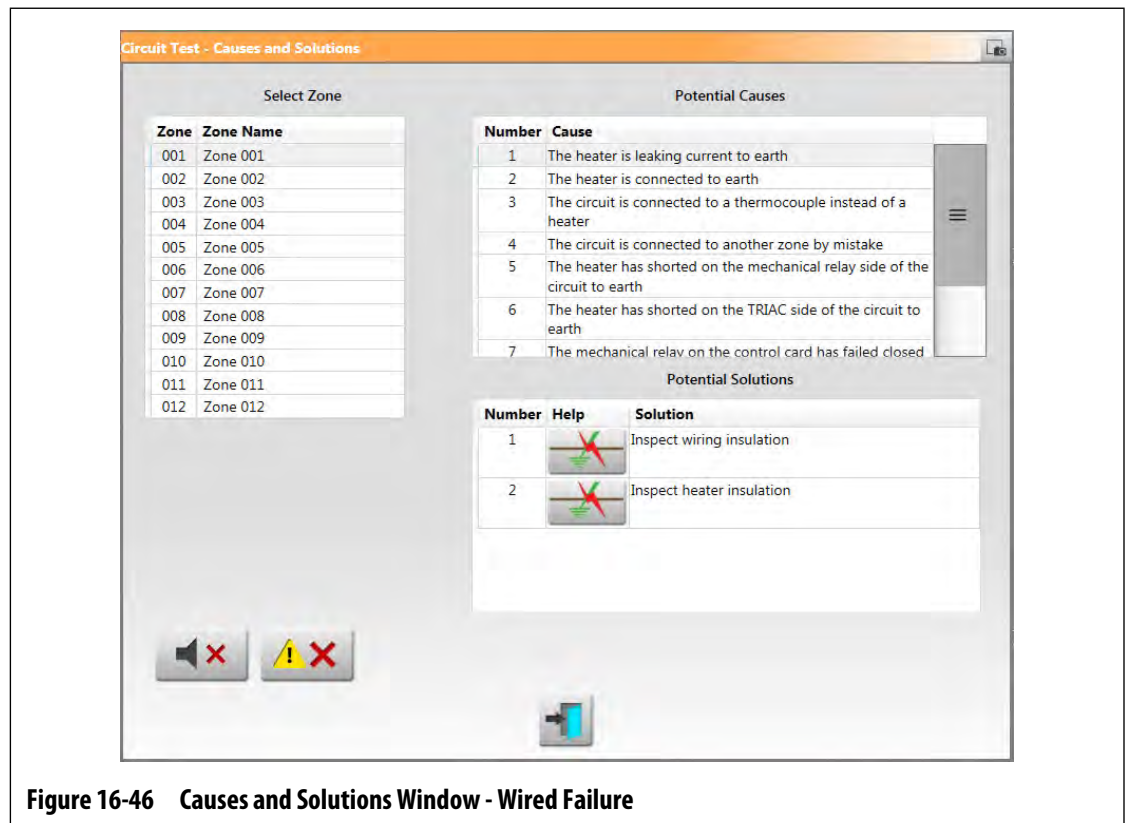
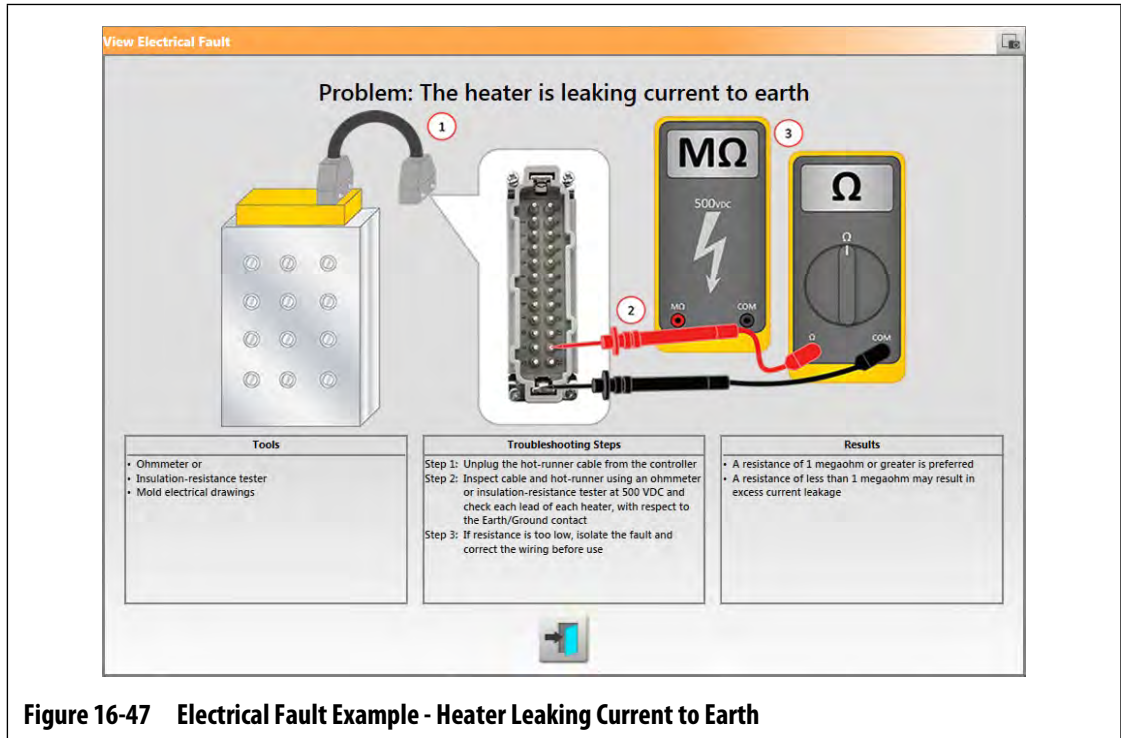

Figure 16-46 Causes and Solutions Window - Wired Failure
Figure 16-47 Electrical Fault Example - Heater Leaking Current to Earth
When the controller does a circuit test, it will stop the system and alert you if failures were detected during the test. The controller shows a window of possible causes and solutions data. Refer to Figure 16-46. This window can also be opened when you touch the **Display Failure Data** button on the System Setup screen (Heats Setup tab, Monitoring tab).
- **View Electrical Fault** - Touch this button to see a picture to help troubleshoot the failure. It also shows a list of tools to use, procedure steps, and the results you should see. The View Electrical Fault button is shown in Figure 16-46. Refer to Figure 16-47 for an example of the troubleshooting procedure window for a “Heat leaking current to earth” failure.